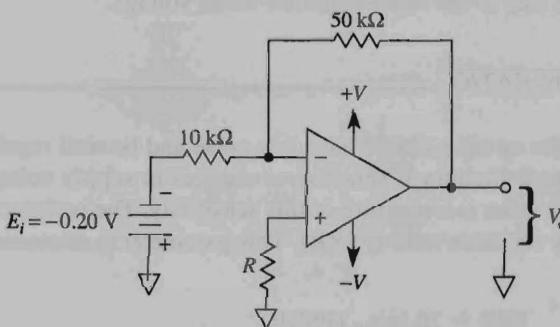

FIGURE P9-16
- 9-16. Refer to Fig. P9-16. $V_{io} = 3 \text{ mV}$, $I_{B-} = 0.4 \mu\text{A}$, and $I_{B+} = 0.1 \mu\text{A}$. (a) What is the best value for resistor R ? Calculate the individual error in the output voltage, V_o , due to (b) V_{io} only; (c) I_{B+} only; (d) I_{B-} only; (e) I_{os} only. The ideal value of V_o should be 1.00 V because of E_i . (f) What is the actual value of V_o when both input offset voltage and current are present along with E_i ?